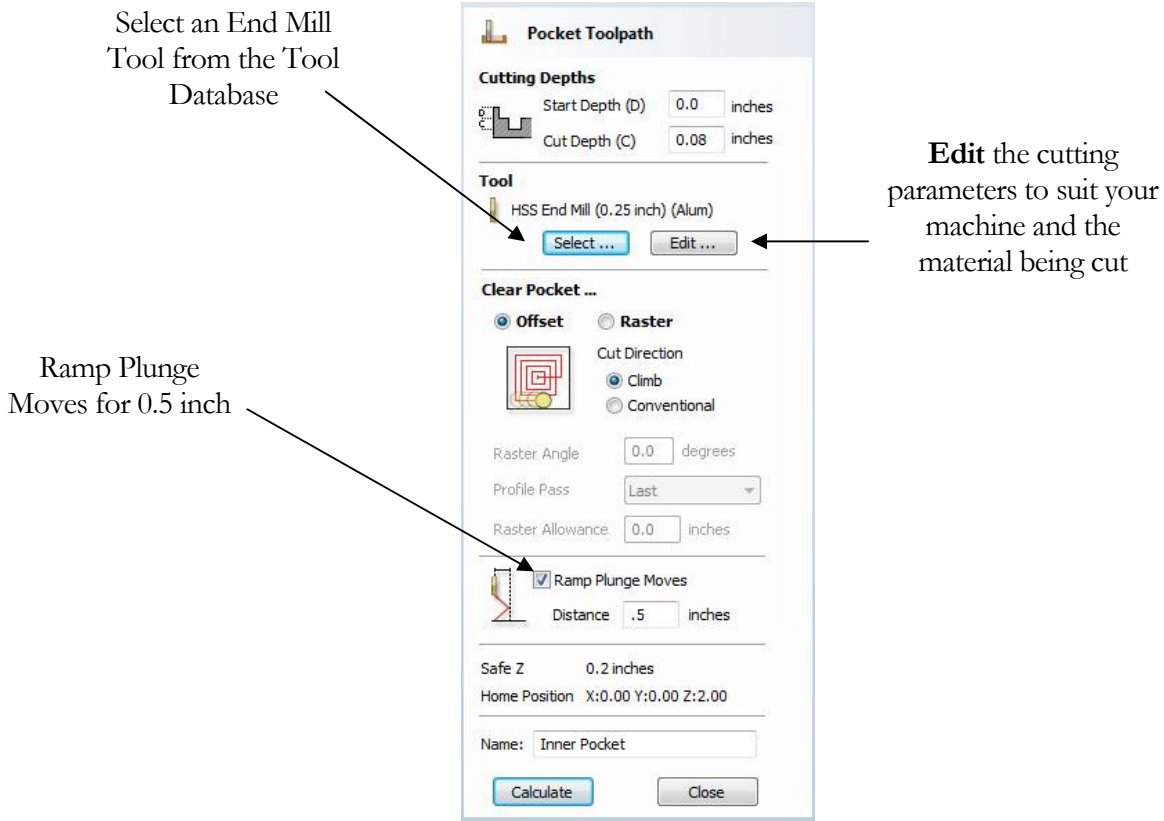

Figure 15. Inner Pocket Toolpath parameters
7. Next, select the **Create Pocket Toolpath**  icon from the **Toolpath Operations** list (Figure 14) and complete the form as shown below in Figure 15.